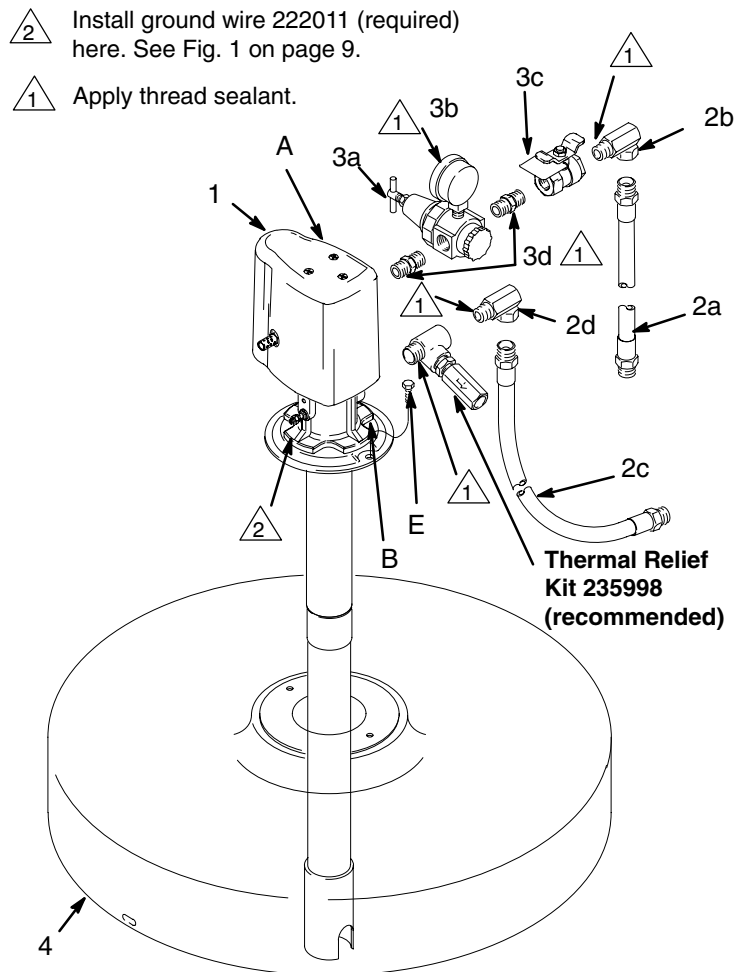

Fig. 5
1. Set the cover (4) on a 55-gallon (208 liter) drum. Install the pump (1) on the cover with the screws (E) supplied. See Fig. 5.
2. Assemble the air regulator kit (items 3a–3d) to the pump air inlet (A), as shown. Use thread sealant and tighten all parts securely.
4. Apply thread sealant to the male threads of the 1/2 npt swivel union (2d). Screw the union into the pump fluid outlet (B).